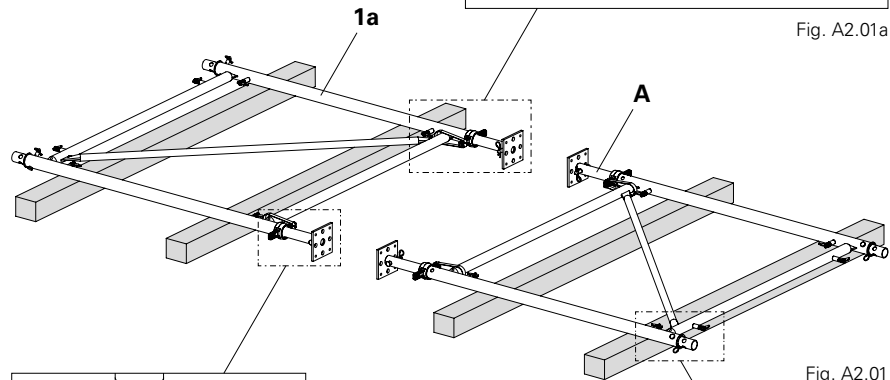

Fig. A2.01
1. Place 2x Frames PD 8 R 150 **(1a)** on support timbers. (Fig. A2.01)